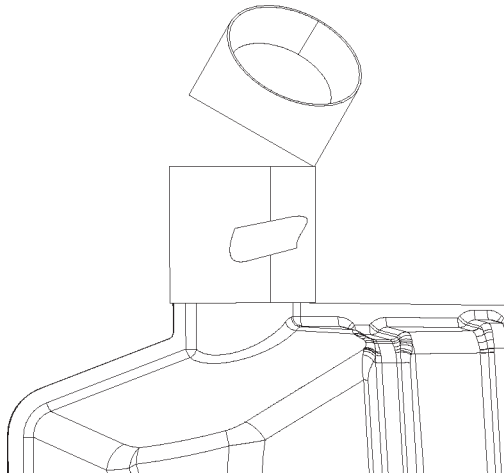

FIGURE 8
13. Wrap the template around the exhaust tip ensuring the edges are aligned. Align the template with the pipe joint at the rear of the muffler and transfer the rear edge of the template onto the exhaust tip, cutoff and **debur exhaust tips**. Refer to figure 8.